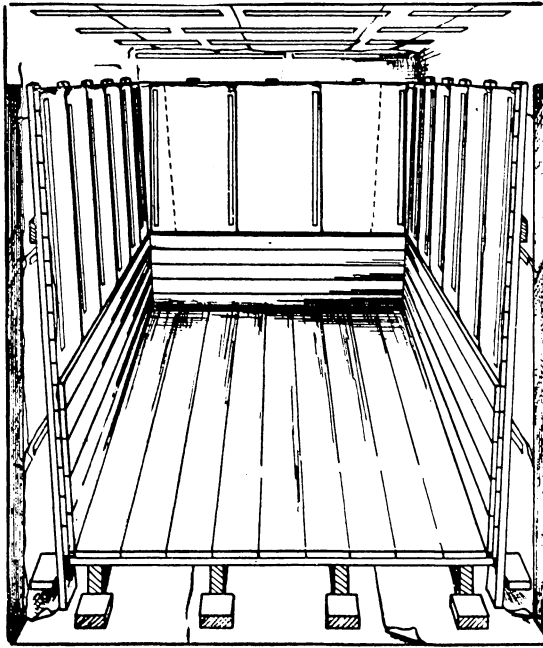

FIG. 12.—Second layer of false floor, side and end wall boards.
13. Nail 8-foot lengths of the 1-inch boards to the false end walls, making a tight second layer of boards from the false floor up 30 inches. (Fig. 12.)
14. Nail 15-foot lengths of the 1-inch boards on the false floor, making a tight second layer of boards. (Fig. 12.)
15. Nail 15-foot lengths of the 1-inch boards to the false side walls, making a tight second layer of boards from the false floor up 30 inches. (Fig. 12.)